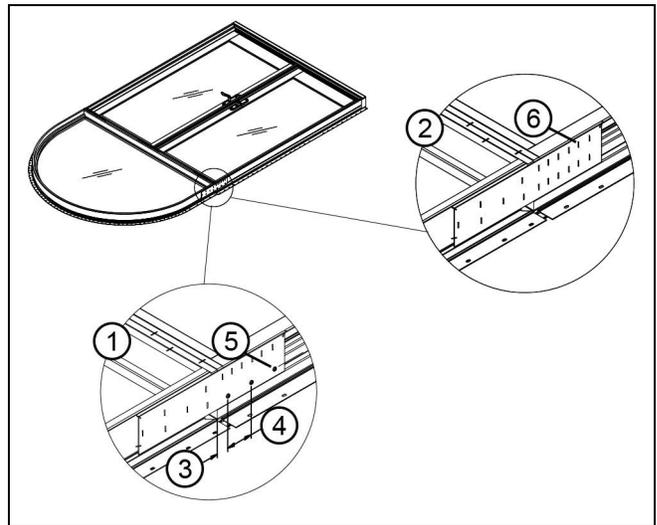

Figure 44
8. Center mulling tin over mullion and secure with 1/2" x 1/2" 16 gauge staples as shown in Figure 44.
9. On Inswing units, drill three pilot holes 3 1/8" (79) in from exterior face on each side of the door unit through mulling tin into the Ultrex jamb using a 7/64" (3) drill bit. Make sure not to drill past the first thickness of Ultrex. Secure with #8 x 3/8" screws provided